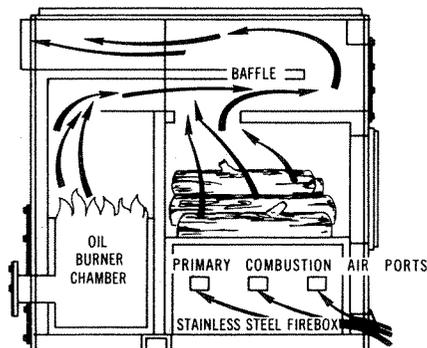

Fig. 79. Hunter combination wood/oil furnace flow-patterns.
12. **Hunter Enterprises Orillia, Ltd.** (manufacturer), P.O. Box 400, Orillia, Ontario, Canada L3V 6K1. The manufacturer of the Hunter combination wood/oil furnace (Fig. 79 and Table 10) claims 82-percent efficiency burning oil and "over 80-percent" burning wood. The oil-burning section incorporates a pressure-atomizing-type oil burner which evenly sprays the oil into the alumina/silica-fibre-felt-lined refractory. Wood-burning section is thermostatically controlled. The separate combustion chambers for wood and oil are designed to minimize the possibility of wood-ash fouling the oil-burning section. Hot gases are fed separately into a common secondary heat-exchanger with a horizontal baffle. The thermostatic controls permit the automatic startup and normal operating cycles of the oil-burning section to take over and maintain a preset temperature in the event the heat output of the wood-burning section decreases.